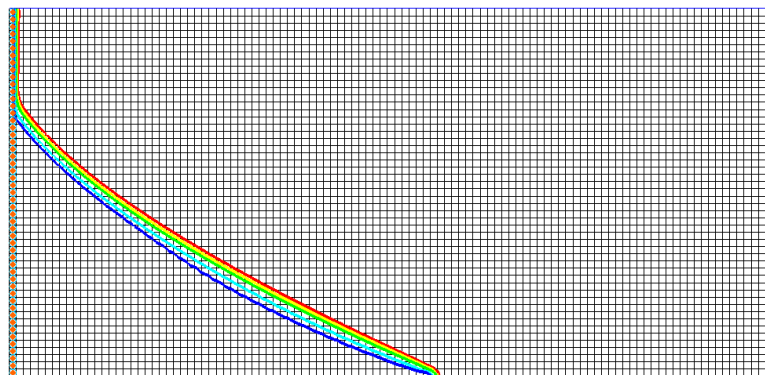

Figure 6 Time step 4 (after 15 minutes)
3. Select time step 4 in the time step window (Figure 6).